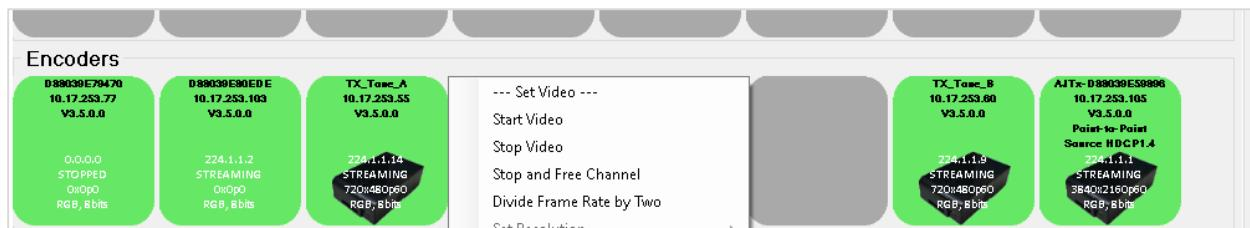

Figure 7 Start/Stop options of BlueRiver encoder (TX) menu
Refer to Figure 7 Start/Stop options of BlueRiver encoder (TX) menu
9.4.6 Disconnecting source from BlueRiver decoder (RX)
9.5.6 Disconnecting source from BlueRiver decoder (RX)